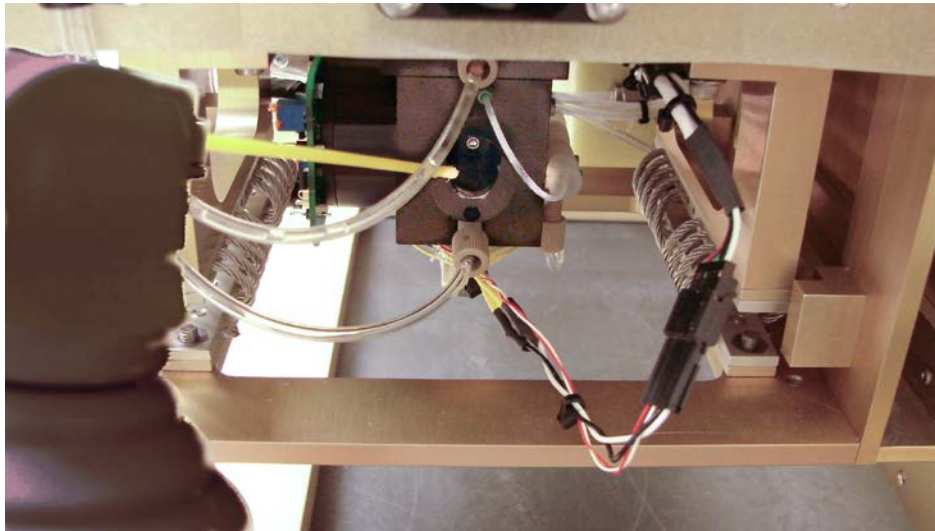

Figure 23: Air Drying OPC with Canned Air
5. Give a couple of short burst of clean dry air (Figure 23). If there is excessive water in the OPC, you will notice water mist coming back out of the hole as you spray into it. Keep applying short bursts until no water mist comes out.
OPC windows are fogged.	There is the potential that the OPC window has fogged due to a system upset. Click on the OPC tab, and then look at the values displayed in the Baseline Mon and 1st Stage Mon windows. Standard operating values for these parameters are provided in the setup sheets with the instrument. The 1st Stage Mon is the best diagnostic if the OPC has fogged. In normal operation, this value will be .2-.3 V. If the OPC has fogged, however, this value will be up to 5 V. If the value drops from 5 V when the OPC heater turns on, the fogging is minor and will clear usually in 30 minutes or less. If the OPC circulation pump is not at high speed, it should be set to high speed (2 seconds) to expedite clearing the OPC. If the OPC does not clear in 12 hours, or you need to clear the OPC more quickly, refer to Figure 23: Air Drying OPC with Canned Air. Contact DMT for additional instructions.